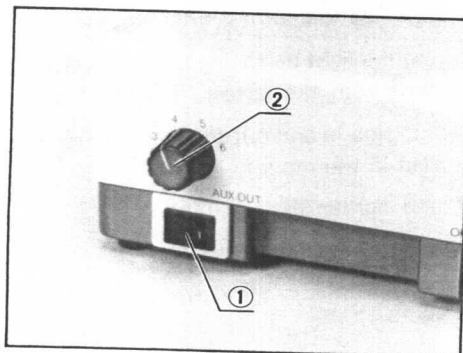

Fig. 15
- a) Activate the ON-OFF switch ① of the auxiliary output. (Fig. 15)
- b) Turn on the illuminator by means of the aux. output knob ②.
- c) After use, turn off the aux. output ON-OFF switch ①.